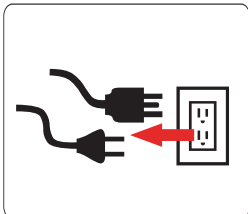

Fig 15
- All electrical loads **MUST** be disconnected from the generator. Never start or stop the engine with electrical devices plugged in to the receptacles. (See fig 15)